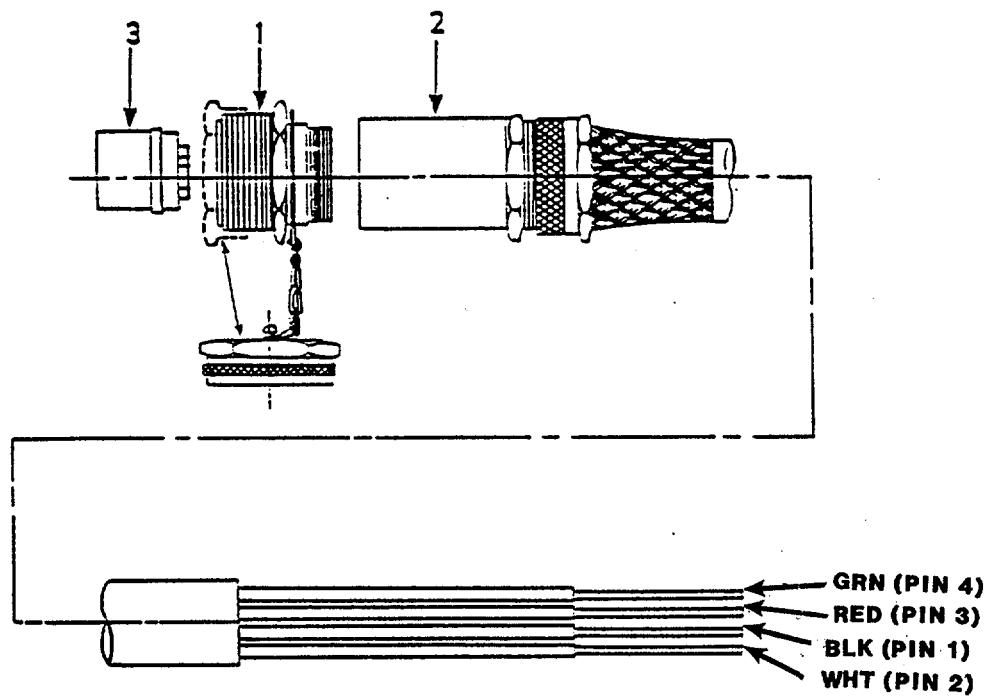

Figure 5-1. Main Power Cable Assembly
- a. Inspect. (See Figure 5-1.)
a. Inspect. - Continued (See Figure 5-1.)
- (1) Inspect main power cable assembly of outside rear wall of shelter for deterioration of rubber insulation.
- (2) Inspect main power cable assembly for general condition of insert, barrel, cable adapter, and protective cap.
- (3) Inspect metal parts of main power cable assembly for corrosion.
b. Repair. (See Figure 5-1.)
- (1) Loosen the connection on the main power cable assembly between the female barrel (1) and cable adapter (2) and separate unit.
- (2) Separate the female barrel (1) and female insert (3) on the main power cable assembly.
- (3) Install female barrel (1) and female insert (3) of the main power cable assembly in the threaded portion of the cable adapter (2) and tighten.
b. Repair. - Continued (See Figure 5-1.)